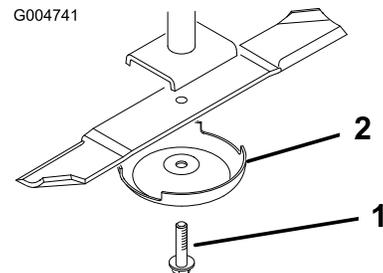

Figure 68
- Remove the blade bolt, anti-scalp cup, and blade from the spindle shaft (Figure 68).